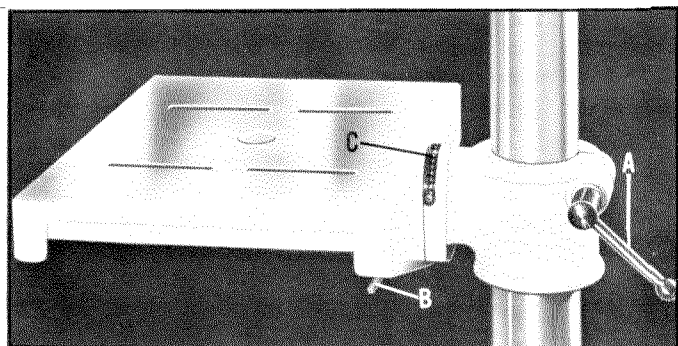

Fig. 8
To adjust the table up or down loosen the lock bolt (A) Fig. 8 on the table bracket. Hold the table while doing so.
The table has been designed with ledges, one on each side, to facilitate the clamping of work pieces. The table may also be tilted to any degree between horizontal and vertical positions. A scale (C) Fig. 8, is located at the rear of the table, and is graduated in degrees. When the table is tilted between horizontal and vertical positions, the pin (B) must be removed. The table can be tilted either right or left.